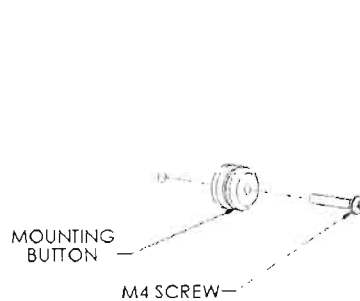
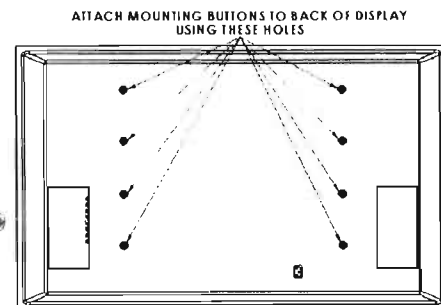

Figure 3
Figure 4
2. Attach mounting buttons to back of display using M4 screws provided (see Figure 3 & Figure 4).